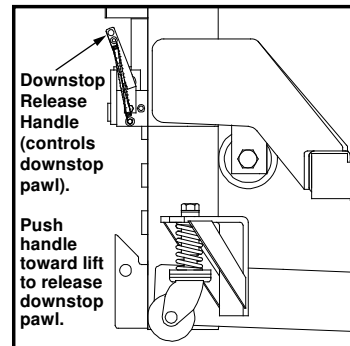

Fig. 10: Push downstop release handle toward lift
8. At each lift, release the downstop pawl by pushing the downstop release handle toward the lift (see Fig. 10.)